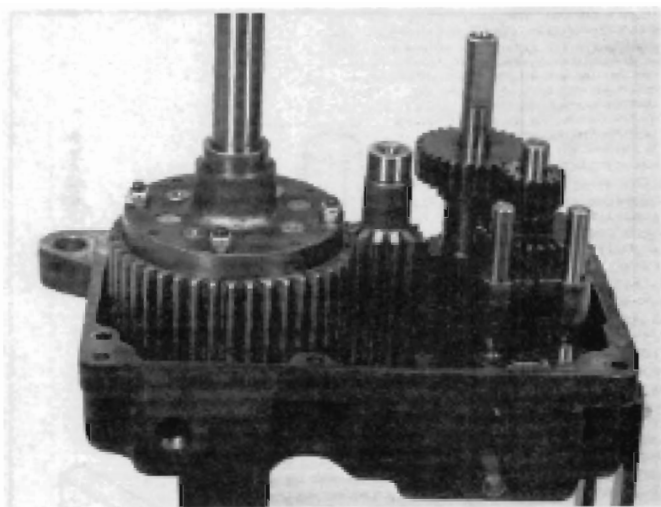

FIGURE 19
18. Install the differential and axle assembly with the retaining bolt nuts up toward the left hand case. Figure 19.